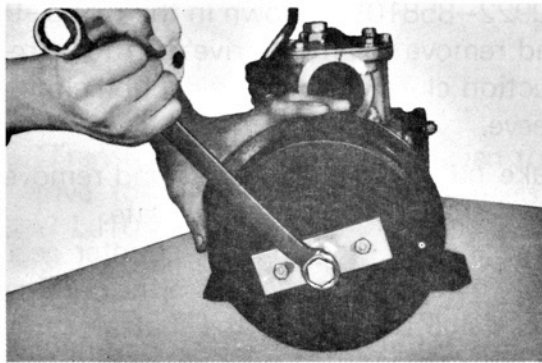

Fig. 3-4.
4) Remove the parking brake drum with the aid of the special tool (flywheel puller-09923-05110) as shown in the Fig. 3-4.